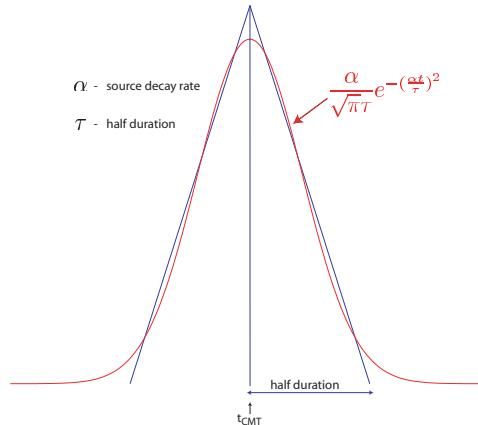

Figure 5.2: Comparison of the shape of a triangle and the Gaussian function actually used.
- For point-source simulations (see finite sources, page 32) we recommend setting the source half-duration parameter half duration equal to zero, which corresponds to simulating a step source-time function, i.e., a moment-rate function that is a delta function. If half duration is not set to zero, the code will use a Gaussian (i.e., a signal with a shape similar to a ‘smoothed triangle’, as explained in ? and shown in Fig 5.2) source-time function with half-width half duration. We prefer to run the solver with half duration set to zero and convolve the resulting synthetic seismograms in post-processing after the run, because this way it is easy to use a variety of source-time functions (see Section 12.1). ? determined that the noise generated in the simulation by using a step source time function may be safely filtered out afterward based upon a convolution with the desired source time function and/or low-pass filtering. Use the serial code `convolve_source_timefunction.f90` and the script `convolve_source_timefunction.csh` for this purpose, or alternatively use signal-processing software packages such as SAC ([www.llnl.gov/sac](http://www.llnl.gov/sac)). Type
Although it is convenient to think of each source as a triangle, in the simulation they are actually Gaussians (as they have better frequency characteristics). The relationship between the triangle and the gaussian used is shown in Fig 5.2. For finite fault simulations it is usually not advisable to use a zero half duration and convolve afterwards, since the half duration is generally fixed by the finite fault model.